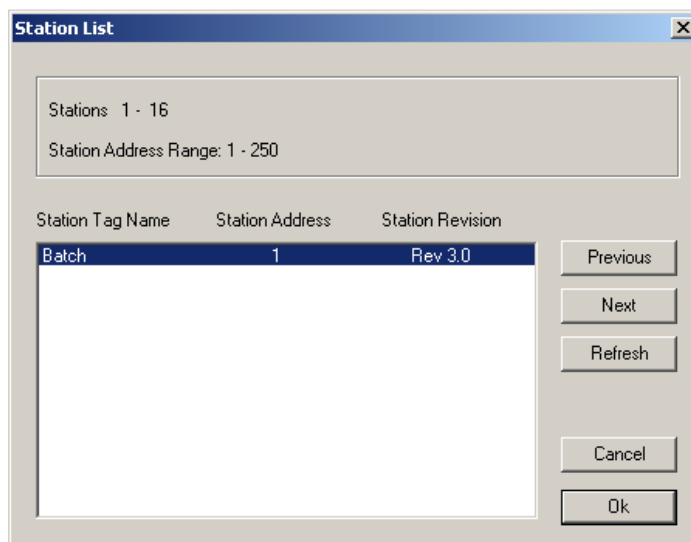

Figure 5-6 Station List dialog
- For MODBUS (Rear Port) or LIL, select the Browse button to view the stations on the multi-drop network. After polling the multi-drop network for available controllers, a Station List dialog (See Figure 5-6) will open. Select the desired controller from the list.